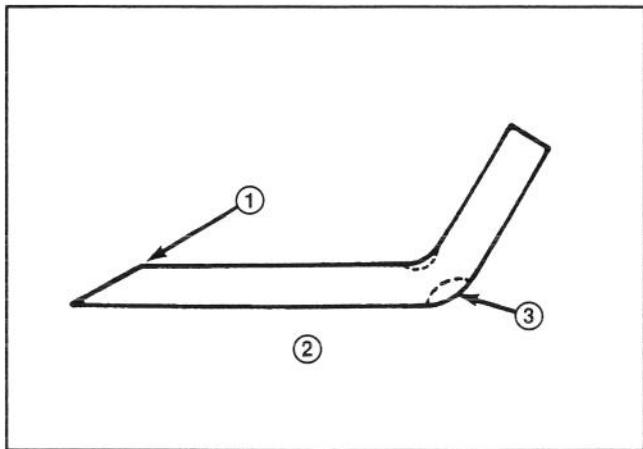

Figure 16
Check the cutter blade each time you tip the rider on end. If the bolt holding the blade is loose, tighten it to 45–60 ft/lb (61–81 Nm). If the blade or the sail (Fig. 16) at the end of the blade is worn, eroded, or cracked, replace the blade. Replace the blade if it is bent or out of balance. Always use a genuine TORO replacement blade to ensure safety and best performance. NEVER USE A WILL-FIT REPLACEMENT BLADE.
7. Using a file, sharpen the cutting edge at both ends of the blade (Fig. 16).